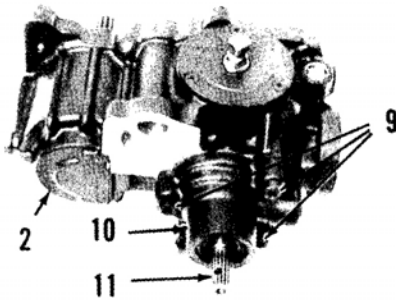

Fig. 58—Remove screws (9) and tap on rear of input shaft (11) with a suitable mallet to separate charge pump case (10) from transmission case (2).
careful not to allow plates to fall free. Remove valve plates (7 and 8). Note that valve plate (7) with two notches (5) is located on pump side, while valve plate (8) with no notches is located on motor side. Remove screws (9—Fig. 58) securing charge pump case (10) to transmission case. Tap on rear of input shaft (11) with a suitable mallet to break charge pump case (10) loose from transmission case, then withdraw charge pump assembly along with the two dowel pins. Withdraw pump cylinder block (13—Fig. 59) from case (2). Remove circlip (18), then extract pistons (15) and retainer plate (17). Remove thrust plate which is